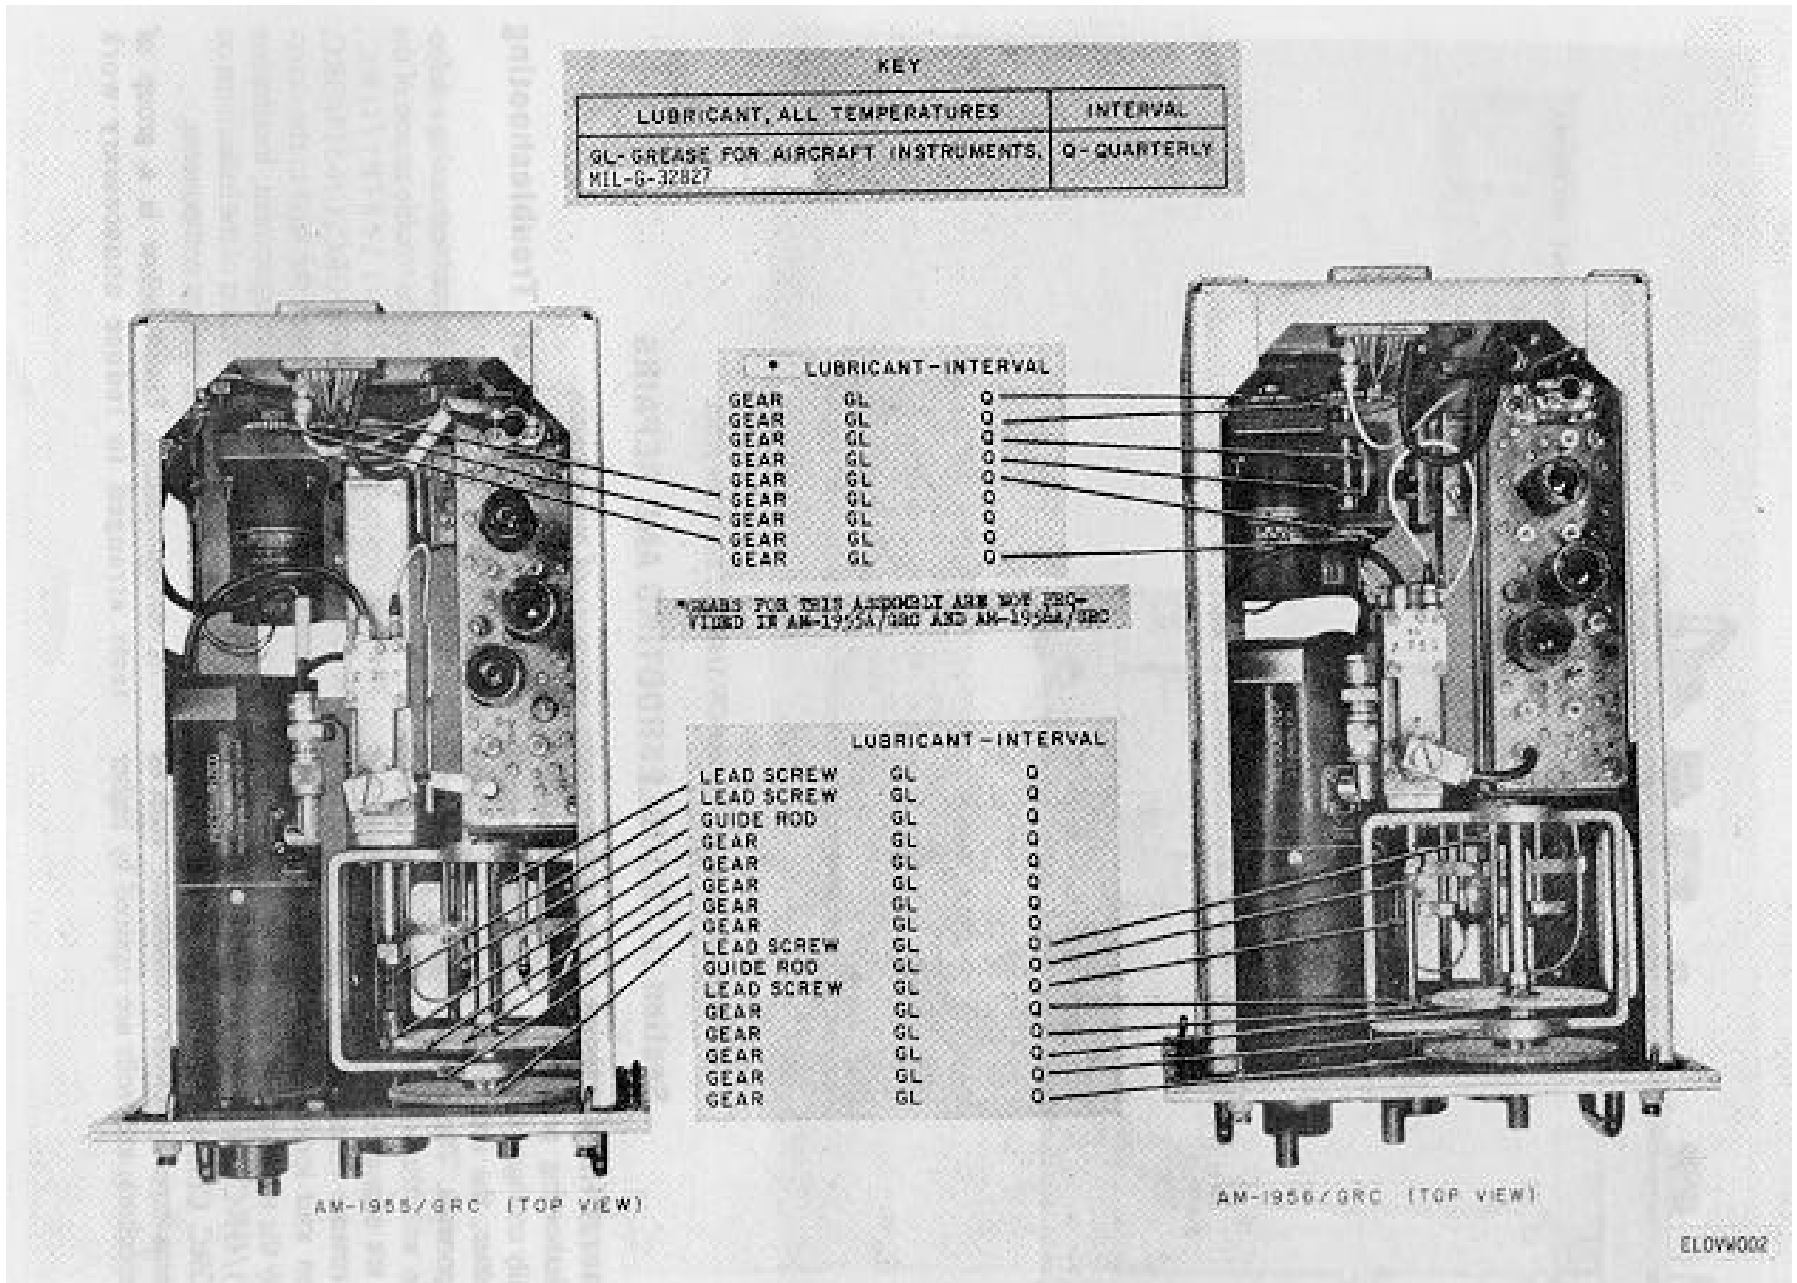

Figure 5-2. Amplifier-Oscillators AM-1955(*)/GRC and AM-1956(*)/GRC, lubrication points.
b. Amplifier-Converters AM-1953(*)/GRC and AM-1956(*)/GRC. Loosen the front panel mounting screws on the AM-1955(*)/GRC or the AM-1956(*)/GRC and remove it from the R-1148(P3)/GRC or the R-1381(*)/GRC. Locate all points to be lubricated and clean them with a brush dipped in cleaning compound (fig. 5-2). Apply a light film of grease (GL) with a clean brush to the points indicated. Replace the AM-1955(*)/GRC or the AM-1956(*)/GRC and tighten the front panel mounting screws.